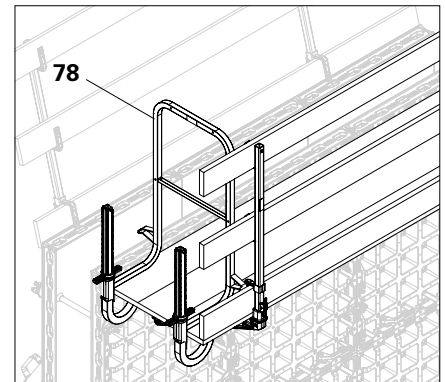

Fig. B4.03
7. Attach side protection, e.g. end guardrail frame 55 (**78**). (Fig. B4.03)